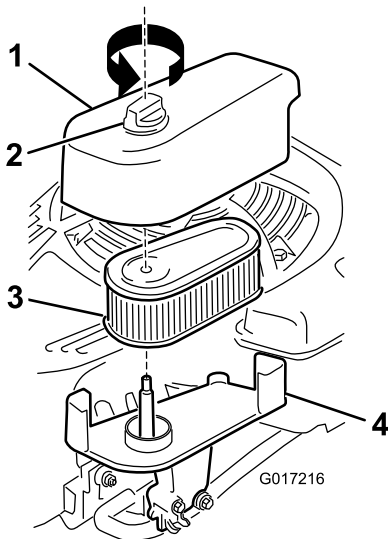

Figure 29
1. Loosen the fastener and remove the air-filter cover (Figure 29).